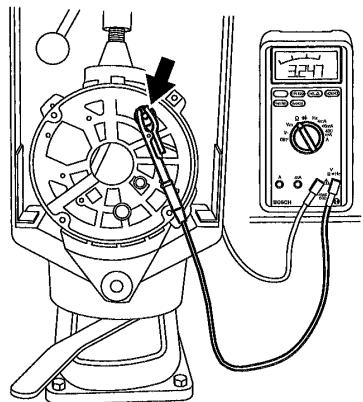

Figure 15 Testing of W Terminal Dampening Resistor
1. The W Terminal incorporates a dampening resistor. Using a Multimeter MMD 302, connect one lead to the exterior portion of the W terminal and connect the other lead to the other side of the W Terminal. The Multimeter should read between 3.1 and 3.5 k Ω (kilohm). If the resistance is above or below this range, the W terminal is to be replaced as an assembly. (Figure 15)